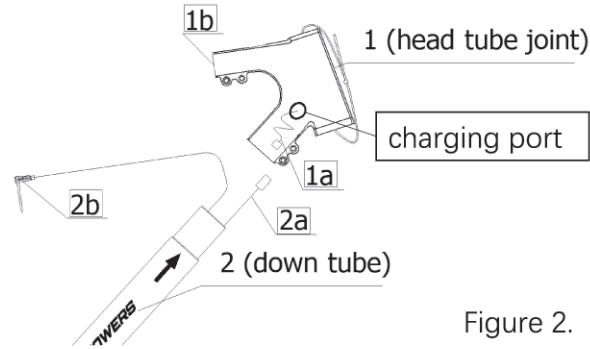

Figure 2.
a. Make sure the charging port on Part 1 faces you, as shown in Figure 2.